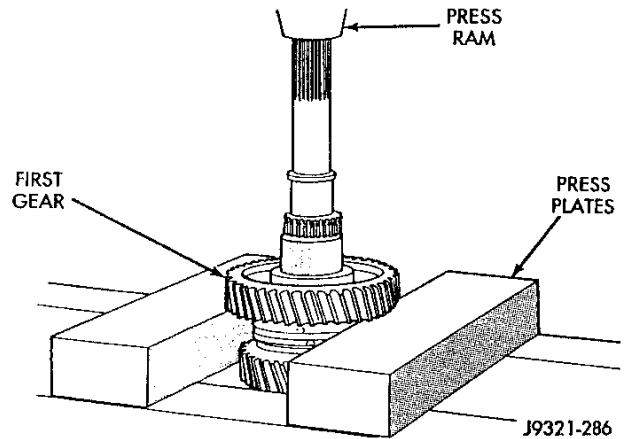
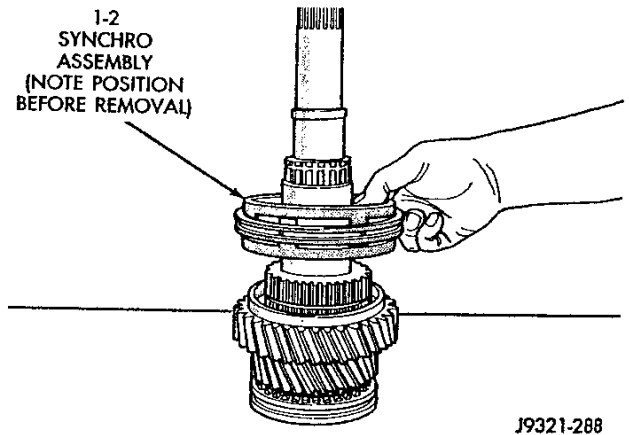

Fig. 22 First Gear Removal
Fig. 23 Removing 1-2 Synchro Assembly
(7) Remove first gear (Fig. 22). Use shop press and two press plates to press gear off shaft. Have helper hold output shaft while removing gear.
(8) Remove first gear bearing from gear or output shaft.
(9) Mark position of 1-2 synchro assembly for installation reference. Then remove synchro assembly from output shaft (Fig. 23).
(10) Remove pilot bearing, 3-4 synchro assembly and third gear as a unit. Use suitable size bearing splitter type remover tool, press tool and hydraulic